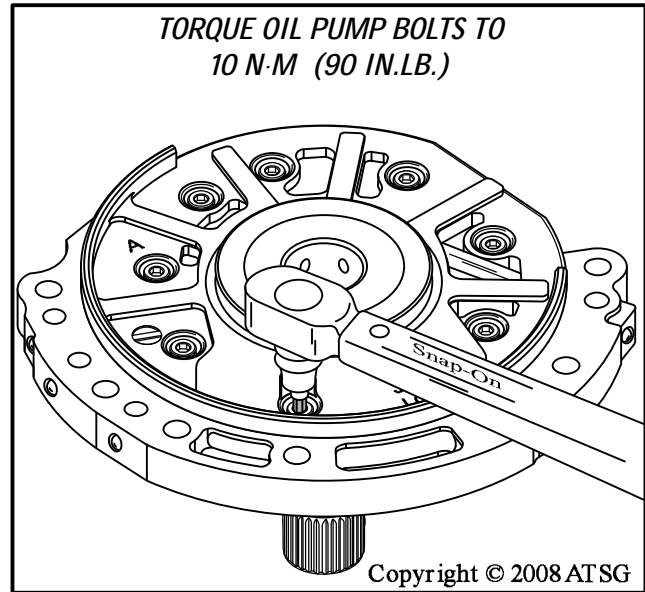

Figure 153
15. Now torque the eight 5mm allen head bolts to 10 N·m (90 in.lb.), as shown in Figure 153, using a criss-cross pattern.